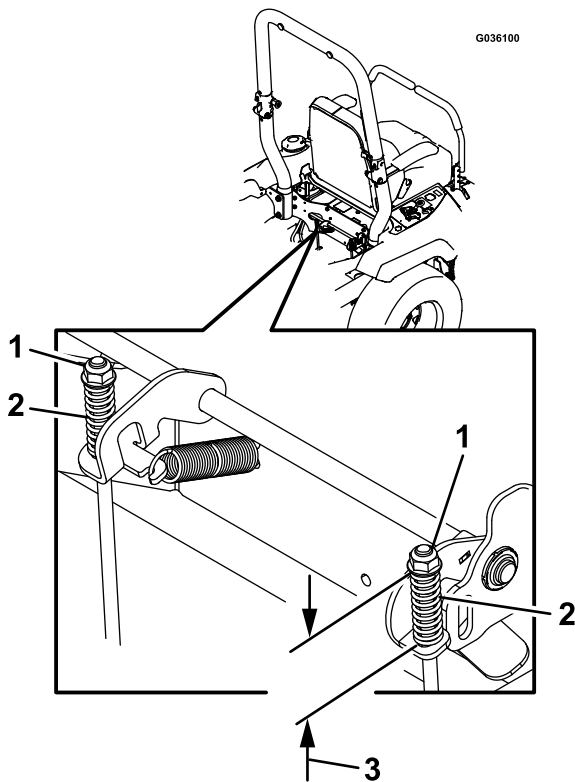

Figure 82
8. Check both spring lengths as shown in Figure 82. If an adjustment is necessary, turn the top nut clockwise to shorten the spring and counterclockwise to lengthen it.